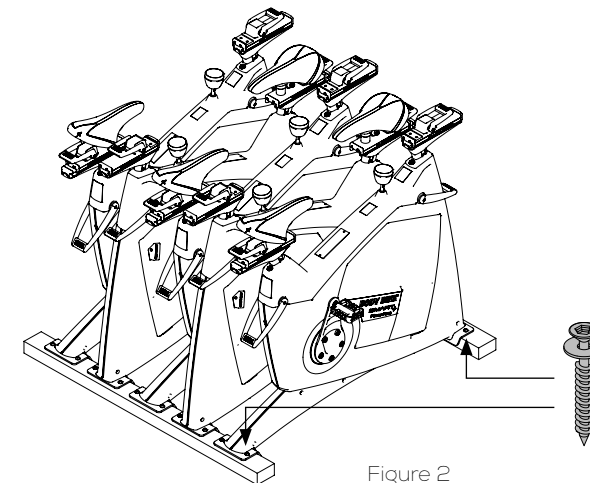

Figure 2
- 4) Loosen the two screws mounting the first bike to the pallet. See figure 2.